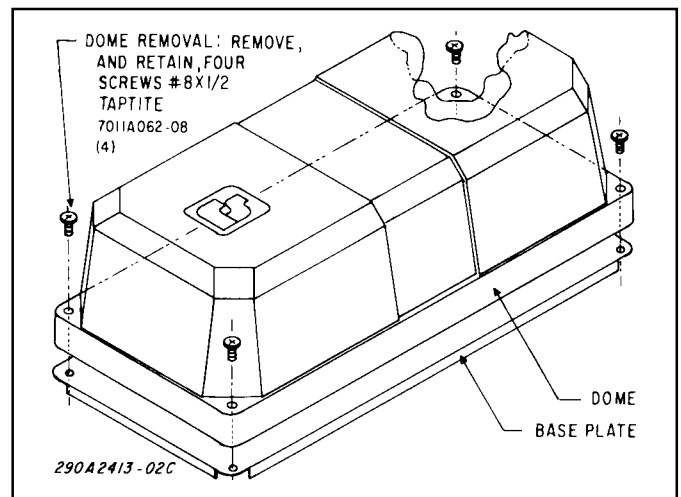

Figure 1.
1. Remove the four screws (one at each corner) which secure the dome to the base plate and remove the dome (see figure 1). Retain the screws.